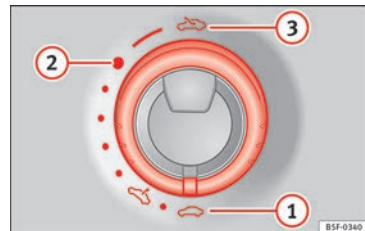

Fig. 11 In the interior roof: turn the knob to open and close
- Opening: Turn the switch to position **»» Fig. 11 3**.
- Convenience position: Turn the switch to position »» Fig. 11 ②.
- Closing: Turn the switch to position »» Fig. 11 ①.